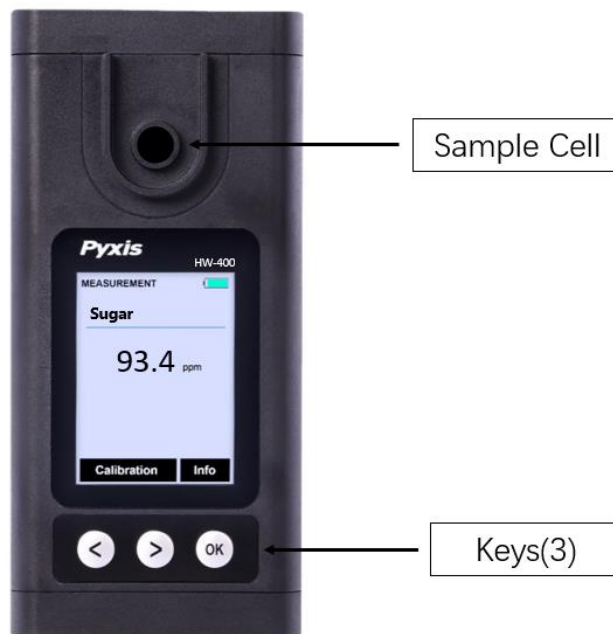

Figure 2.
The HW-400 has three control keys, as shown in Figure 2. The left (◀), right (▶), and ok (OK) keys are used to launch actions indicated on the LCD display directly above the keys. The labels above the keys indicate the function associated with each key and functions can be changed in different operation modes.